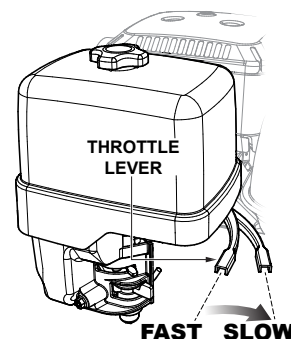

Figure 18. Throttle Lever
3. Move the throttle lever (Figure 18) away from the slow position, about 1/3 of the way toward the fast position.